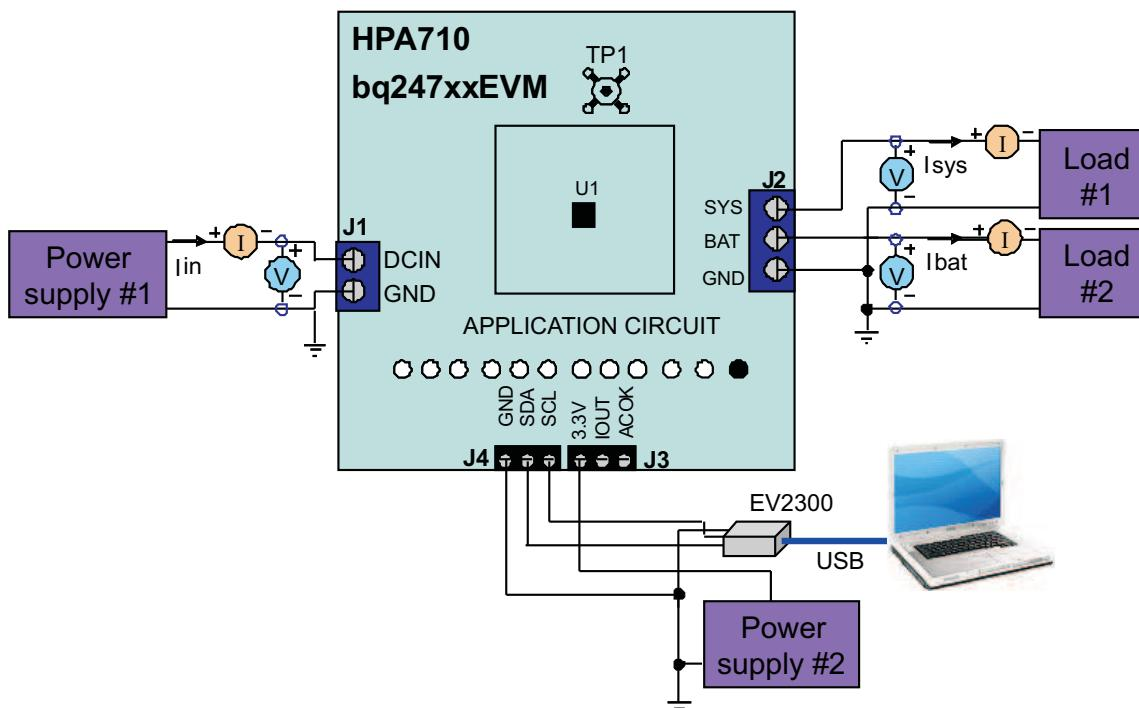

Figure 4. Test Setup for HPA710
3. Connect the output of the Load #1 in series with a current meter (multimeter) to J2 (SYS, GND). Ensure that a voltage meter is connected across J2 (SYS, GND). Turn on the power of the Load #1. Set the load current to $3 \text{ A} \pm 50 \text{ mA}$ but disable the output. The setup is now like Figure 4 for HPA710. Ensure that $I_{bat} = 0 \text{ A} \pm 10 \text{ mA}$ and $I_{sys} = 0 \text{ A} \pm 10 \text{ mA}$.